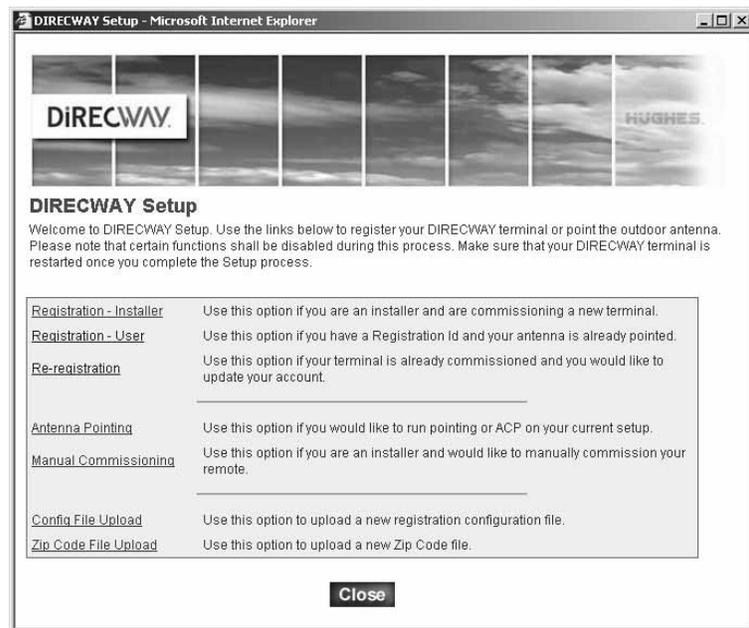

Figure 43: Accessing the DIRECWAY Setup screen
2. Type **http://192.168.0.1/fs/registration/setup.html** in the browser's address or location bar and press **ENTER** to access the DIRECWAY Setup screen. See Figure 43.